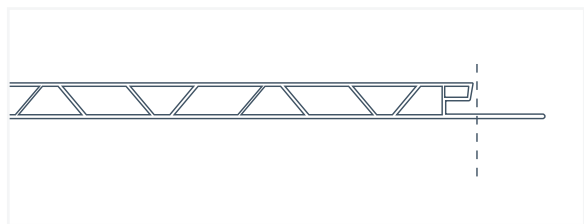

Fig. 43
6. Cut the screw flange off the replacement panel as close to the panel body as possible. It is recommended to use tin snips for this step (Fig. 43).